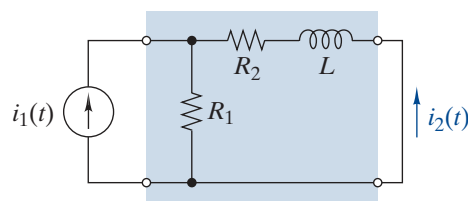

FIGURE P11–37
- 11–38 The circuit in Figure P11–38 is in the steady state with $i_1(t) = 5 \cos 1000t$ mA, $R = 1 \text{ k}\Omega$, $L = 2 \text{ H}$, and $C = 0.5 \text{ }\mu\text{F}$.